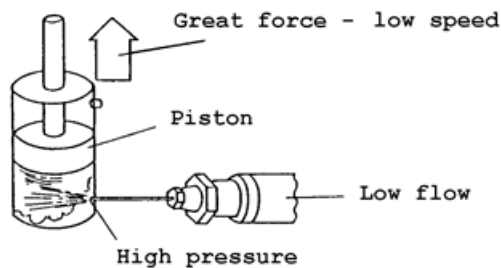

FIG 4.
- It is possible to have a high pressure and a relatively low flow. In Fig 4, a cylinder is filled very slowly through a small pipe at a high pressure. The piston will move very slowly but will be able to lift a heavy load due to the high pressure.